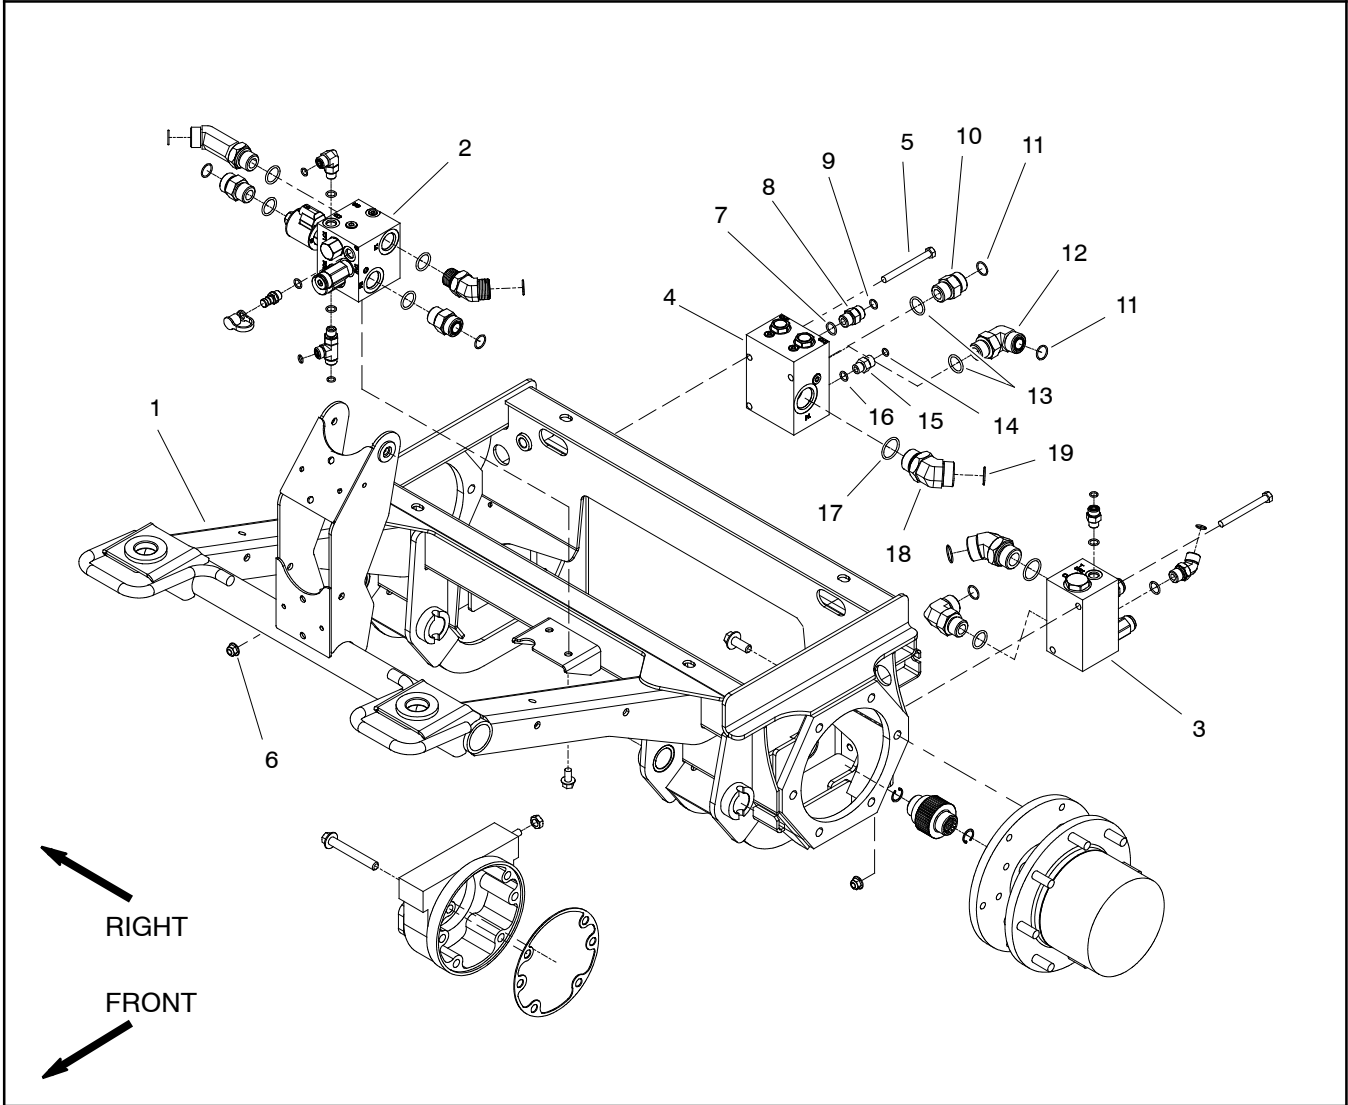

Figure 72
Removal (Fig. 72)
4. Remove front traction manifold from the frame using Figure 72 as a guide.
Installation (Fig. 72)
2. Install front traction manifold to the frame using Figure 72 as a guide.